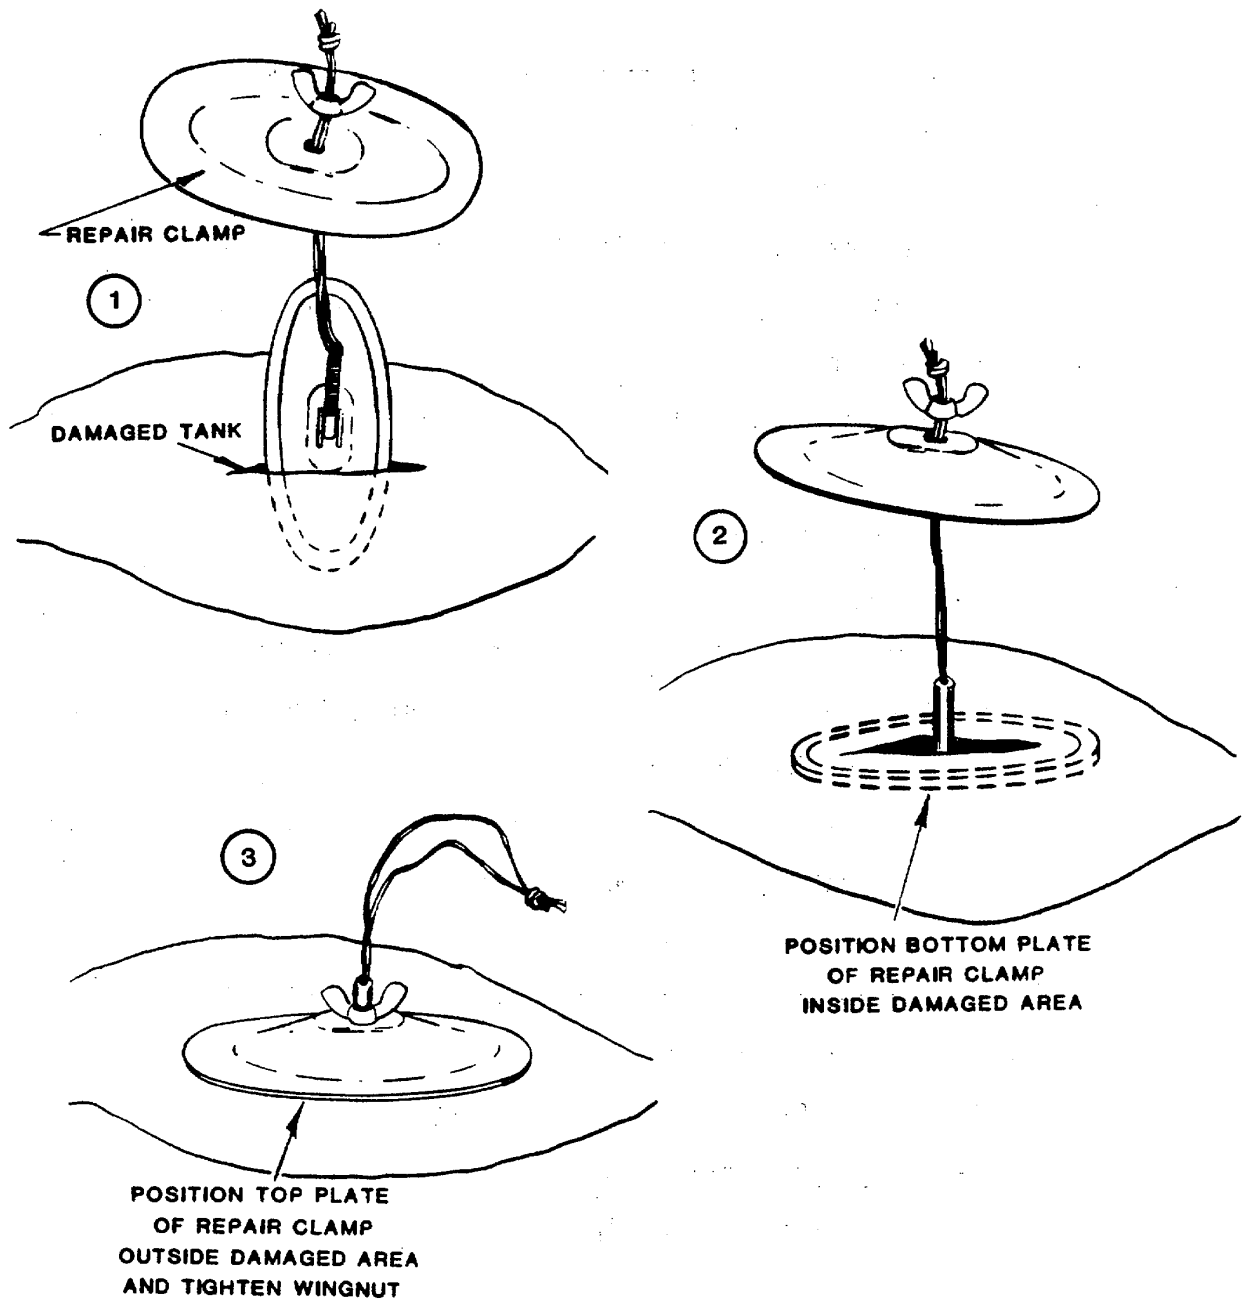

Figure 4-1. Repairing Tank Envelope with Sealing Clamp
- (1) Insert small end of plug into puncture. Turn clockwise until leak stops or slows.
- (2) Remove plug and install clamp when operation permits.
b. Repairs with Clamps. See figure 4-1.
- (1) Select proper size clamp using these guidelines for tears: